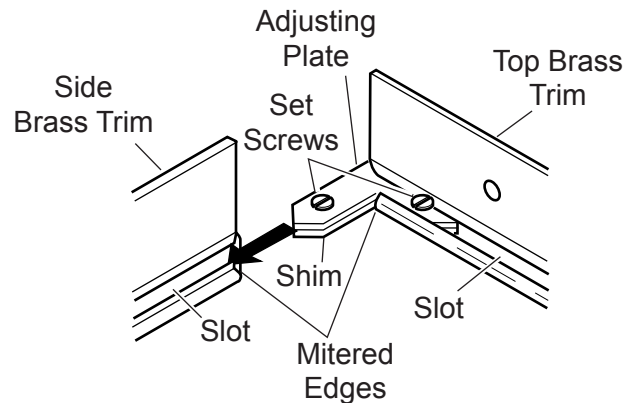

**Figure 3 - Installing Logs**
3. Gently slide log on log retaining pin on base assembly (see Figure 3). The log should fit firmly against bottom of log retaining pin.